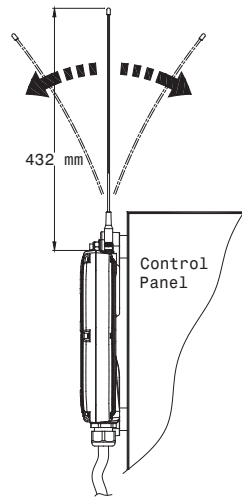

Fig. 28
3. Ensure the selected location has adequate space to accommodate the receiver. If an external antenna is used, always locate the receiver where the antenna is free from any obstacles from all directions to avoid the possibility of antenna damage (*see Fig. 28*).